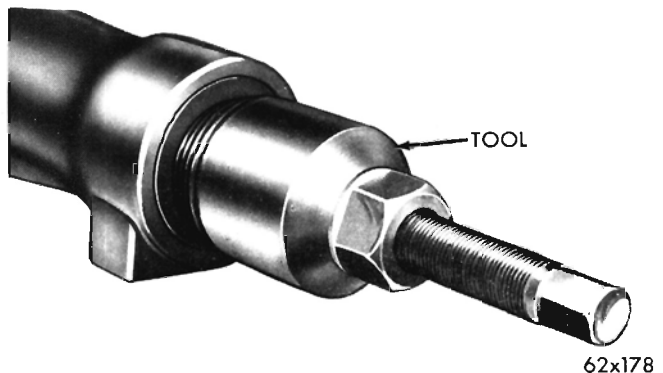

Fig. 46—Removing Output Shaft Oil Seal
(3) Screw taper threaded end of Tool C-748 into the seal (Fig. 46), then tighten the screw of tool to remove the seal.